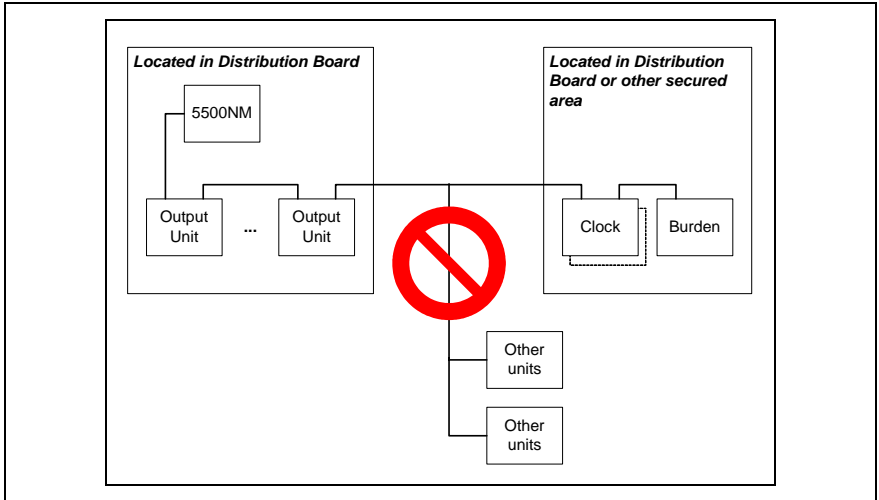

Figure 3 – Do not include spur runs with no output units
- 6) Do not include spur runs with no output units, on the C-Bus network. (A spur is a segment of C-Bus cabling which leads off from the main network, as shown in Figure 3).